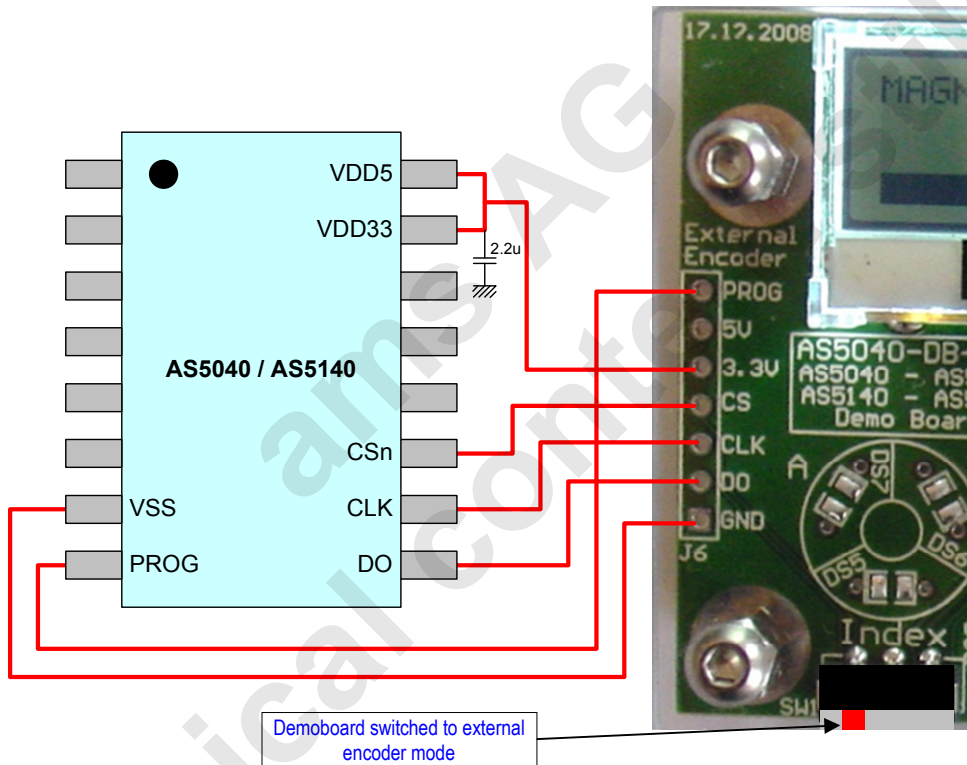

Figure 3: external AS5040/AS5140 connection to the demoboard
- In standalone mode, regardless to the demoboard type (AS5040 or AS5140), AS5040 and AS5140 can be attached to J6 and evaluated. See figure 3.